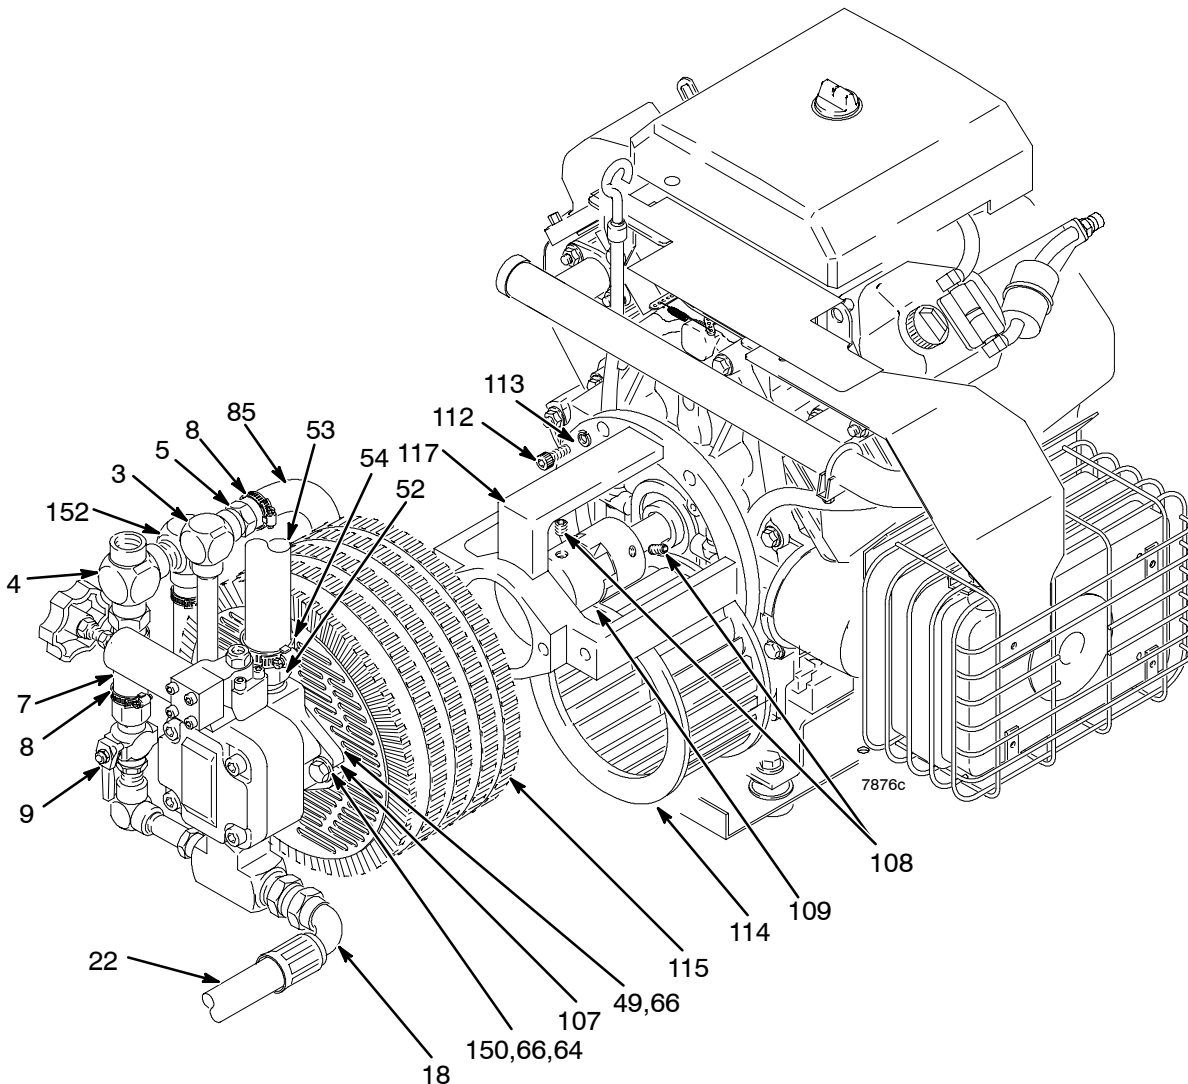
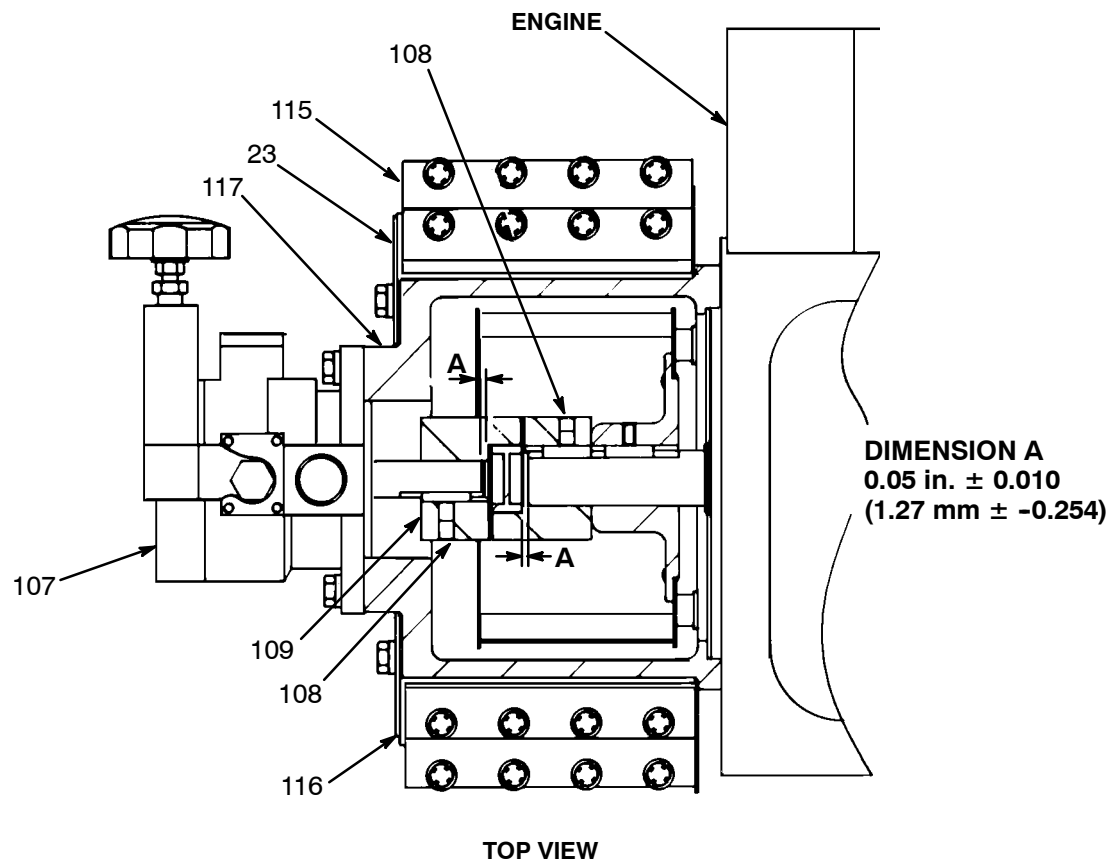

Fig 8
Fig 9
2. Unscrew the reservoir drain plug (51), having a container ready to catch the draining fluid.
3. Disconnect the hose (7) from the bypass valve (9) by loosening the hose clamp (8). See Fig 8.
4. Loosen the hose clamp (8) and pull the hose (85) off the hose insert (5) near the elbow (3). See Fig 8.
5. Loosen the hose clamp (54) on the hose (53) just above the hydraulic pump (107). See Fig 8.
6. Loosen the tube fitting nut (18) of hose (22). See Fig 8.
7. Remove the two capscrews (150), lockwashers (66) and washers (64) holding the pump (107) to the support (117). See Fig 8.
10. Loosen the setscrews (108) on the pump half of the coupler (109). See Fig 9.
12. Check Dimension A as shown in Fig 9. When the dimension is correct, tighten the setscrews (108), slide the new pump assembly onto the pump support (117) and recheck the dimension.
13. Reconnect the hoses. Reinstall the reservoir plug (51), and refill the reservoir with clean, Graco approved hydraulic oil.
3. Disconnect the cooler to reservoir return hose (7.) by loosening the hose clamp (8). See Fig 8.
4. Remove the cooler capscrews (49) and lockwashers (66). See Fig 8.
5. Remove the fan guard (23). See Fig 8.
6. Pull the cooler (115) straight out.
7. Inspect the rubber pad (116) for wear and replace if necessary. See Fig 9.
8. Inspect the blower wheel (114) for wear. See Fig 8. If it needs to be replaced, follow Steps 8a–8e.
- a. Unscrew the setscrews (108) from the engine half of the coupler (109). Unscrew the blower setscrews (B). See Fig 9.
- b. Remove the capscrews (112) and lockwashers (113) holding the pump support (117) to the engine and pull the support off. See Fig 8.
- d. Install a new blower. Secure the pump support (117) to the engine. See Fig 8.
- e. Check Dimension A as shown in Fig 9 and tighten the coupler setscrews (108). Butt the blower hub up to the coupler half, keeping the blower in full contact with the coupler, and tighten the blower setscrews (B).
10. Fold the flaps of the pad (116) toward the cooler fins and install the fan guard (23), capscrews (49) and lockwashers (66). See Fig 8.